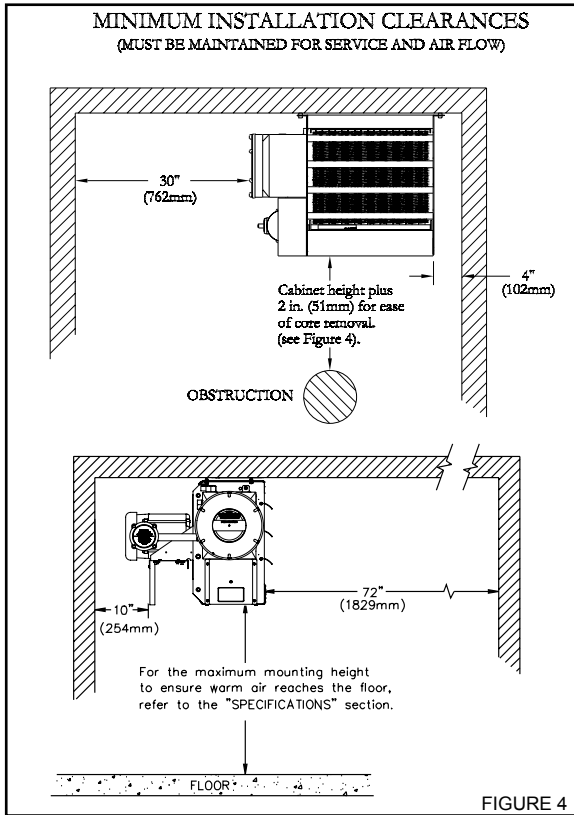

FIGURE 4
3. Do not install conduit below heater (see Figure 4).